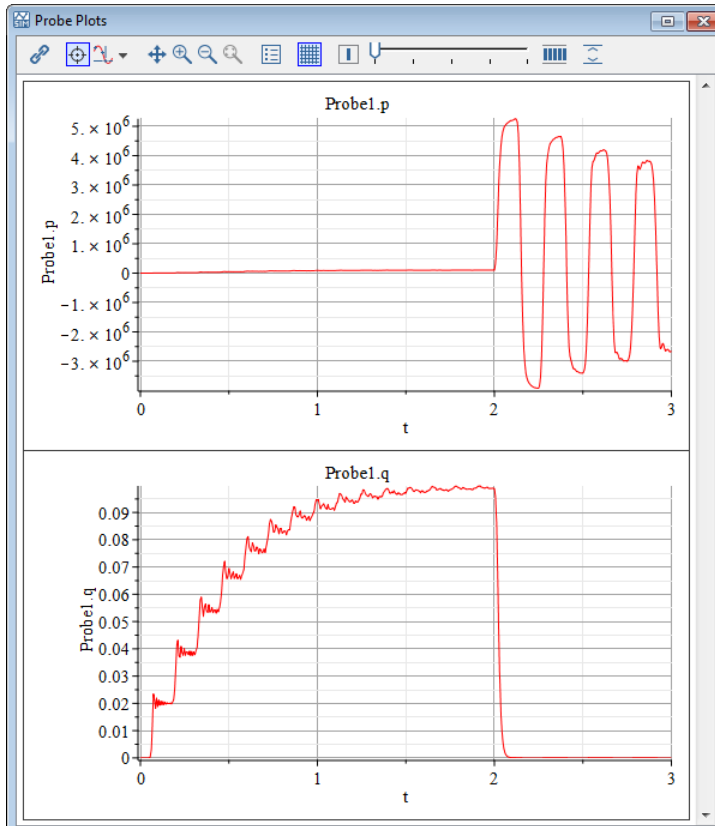

Figure 6.29: Water Hammer Pressure Flow Rate
**Figure 6.29** plots the pressure and flow rate at the end of a pipe for a valve that rapidly closes after 2 seconds.